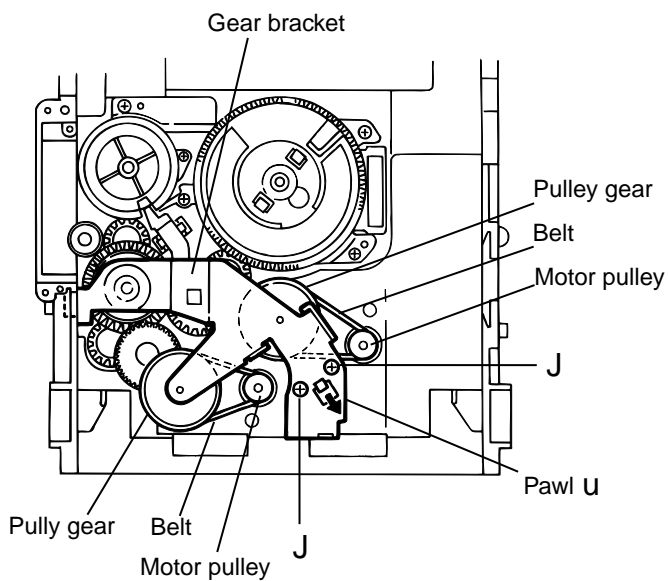

Fig.19
(See Fig.19 to 22)
1. Remove the two screws J retaining the gear bracket (See Fig.19).
2. While pressing the pawl "u" fixing the gear bracket in the arrow direction, remove the gear bracket (See Fig.19).
4. Remove the belts respectively from the right and left actuator motor pulleys and pulley gears (See Fig. 19).